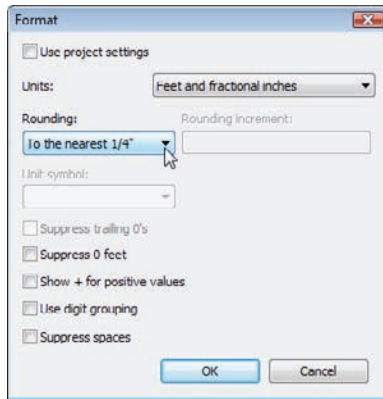

FIGURE 5.15 Changing the dimension's precision. Notice some of the other available choices.
7. Choose To The Nearest 1/4" (To The Nearest 10) from the Rounding drop-down menu (see Figure 5.15).